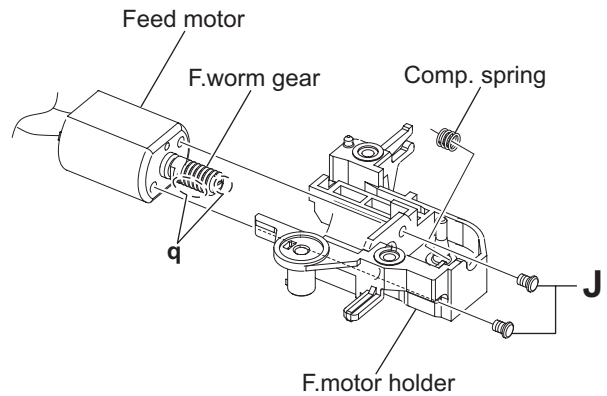

Fig.19
- Remove the two screws **J** attaching the feed motor to f.motor holder. (See Fig.19.)